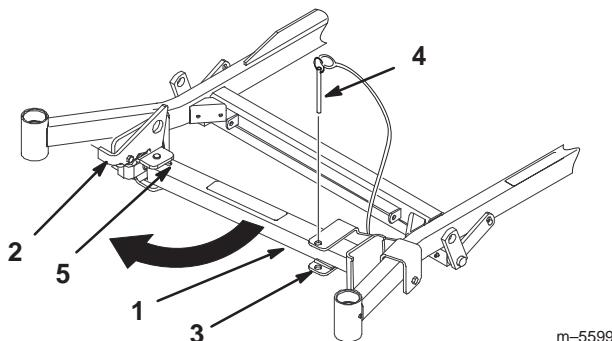

Figure 30
3. Raise the latch. Swing the stand foot out front and slide stand toward machine, into the bottom of slot (Fig. 30 and 31).
5. Return the stand to its rest position (Fig. 30).